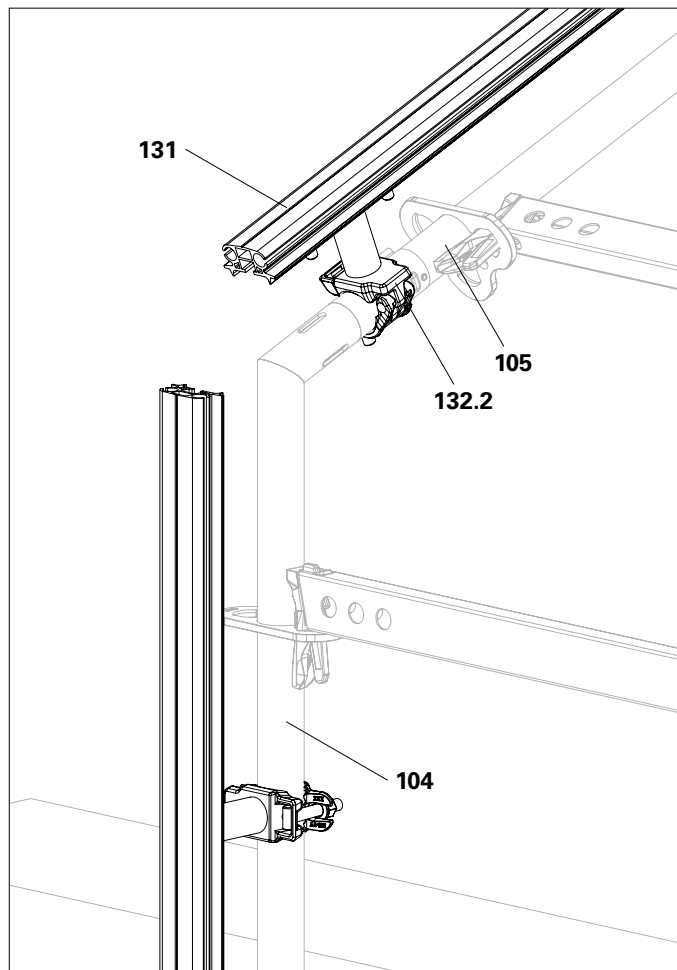

Fig. D3.11
- The keder track is now installed. (Fig. D3.11)